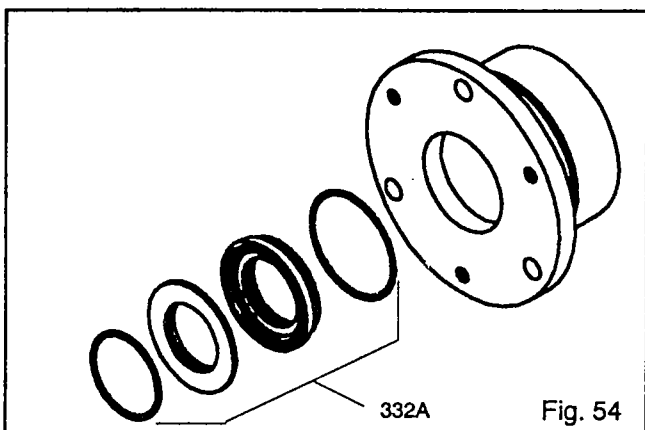

Fig. 54
10. Remove outboard labyrinth seal (332A) from bearing housing (134). Remove O-rings (497F), (497G) if necessary (Fig. 54).